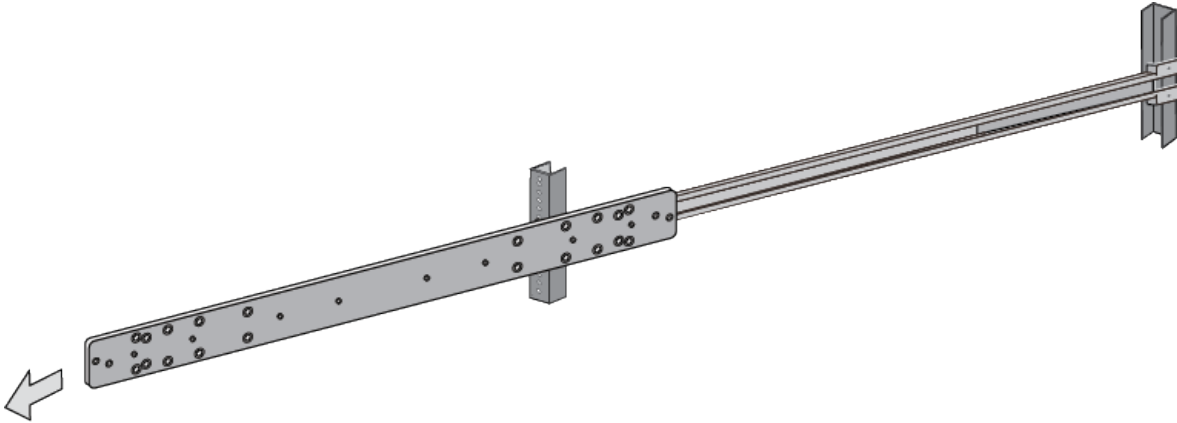

Figure 89. Removing the Inner Rail
- Remove the inner rail from the outer rail. Refer to Figure 89.